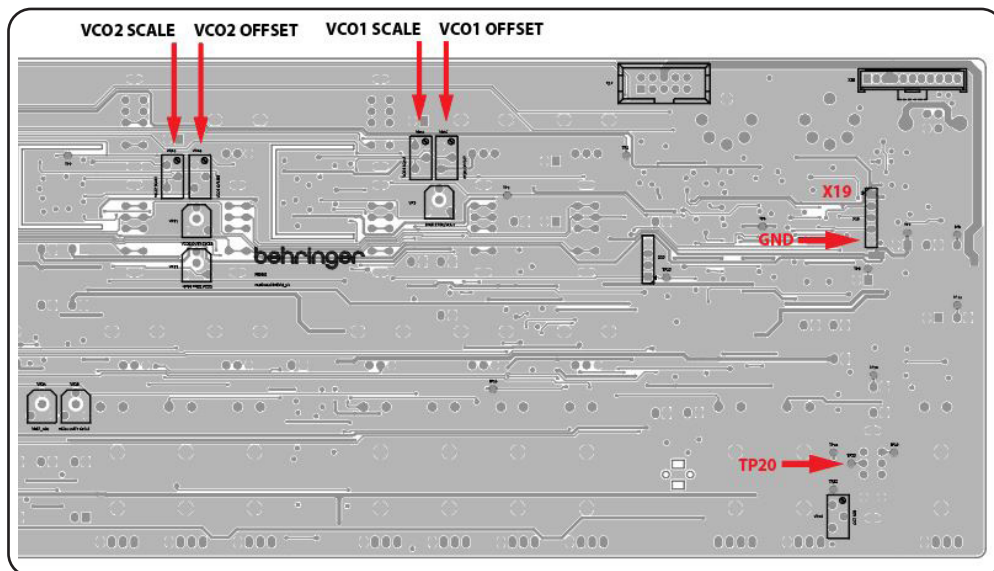

Figure 2
STEP 2 On your external keyboard, press the A2 key and adjust the VCO1 OFFSET trimmer (VR42 on the bottom side) while observing the guitar tuner display (A2-110Hz) (See figure 2 below).